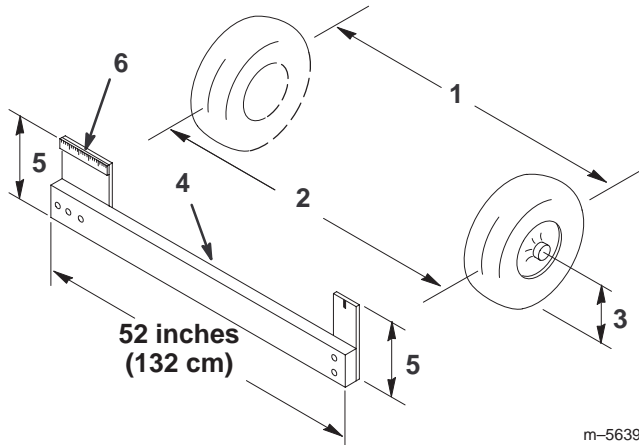

Figure 48
4. Measure the distance between both of the front tires at the axle height at both the front and rear of the front tires (Fig. 48). A fixture or alignment gauge is needed for the rear measurement of the front tires at axle height. Use the same fixture or alignment gauge to accurately measure the front of the front tires at axle height (Fig. 48).